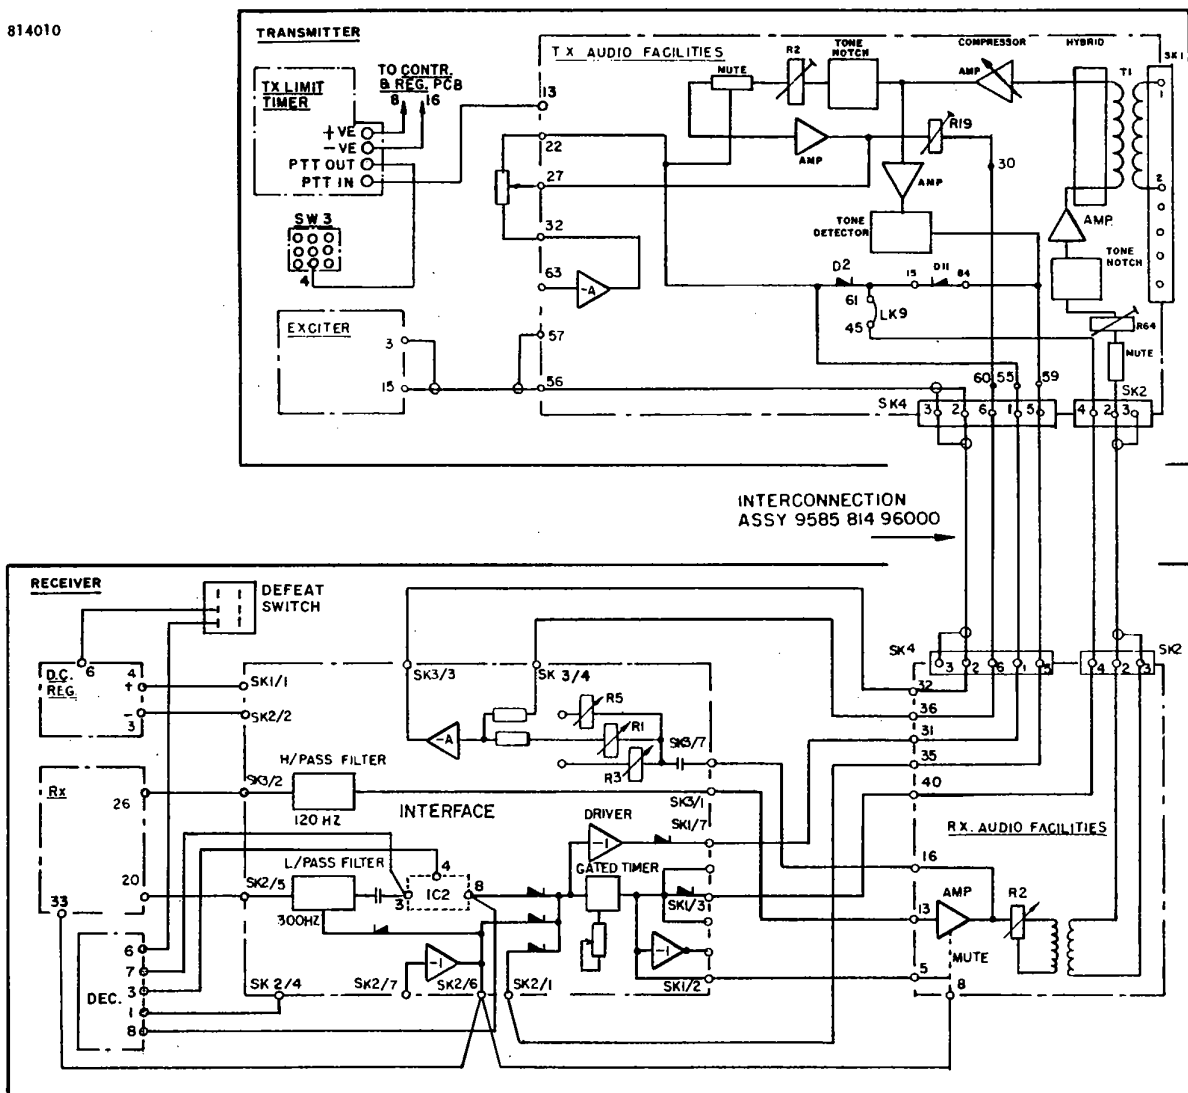
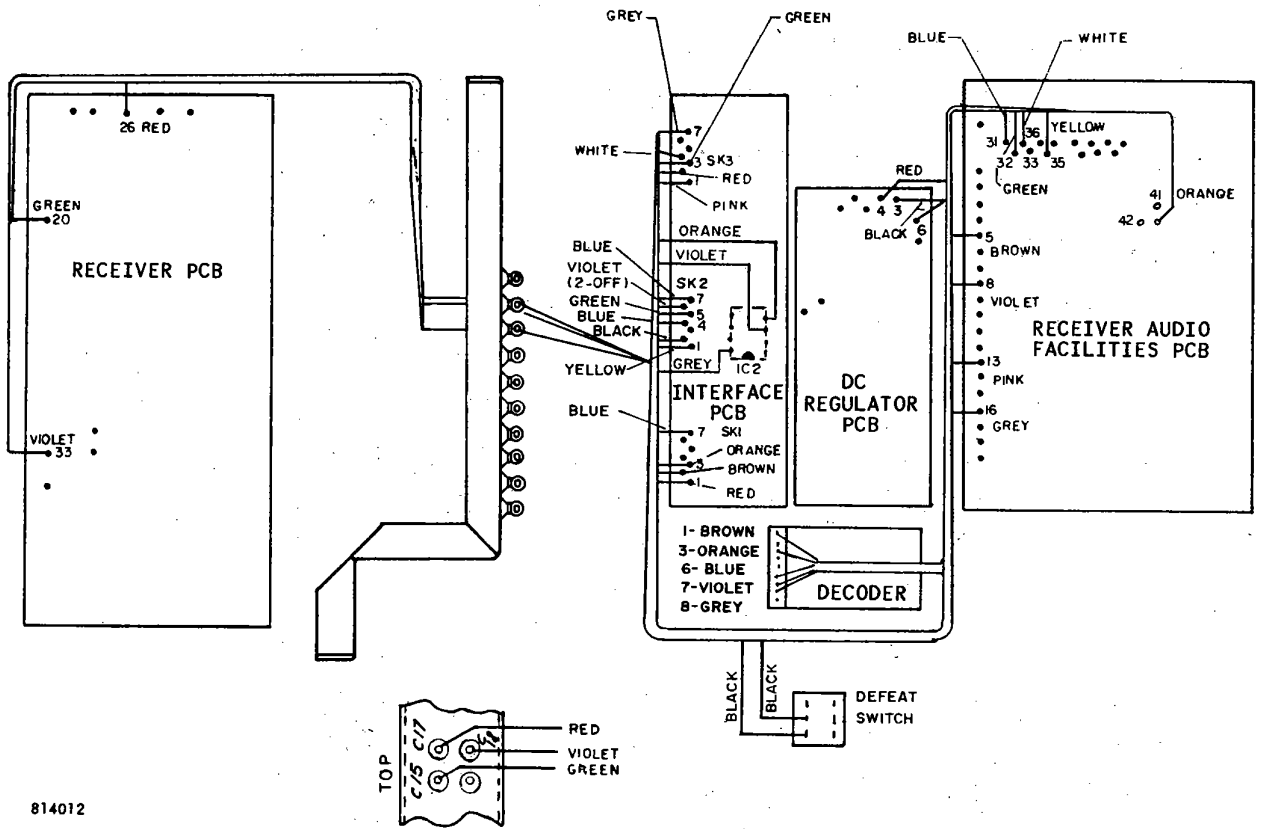
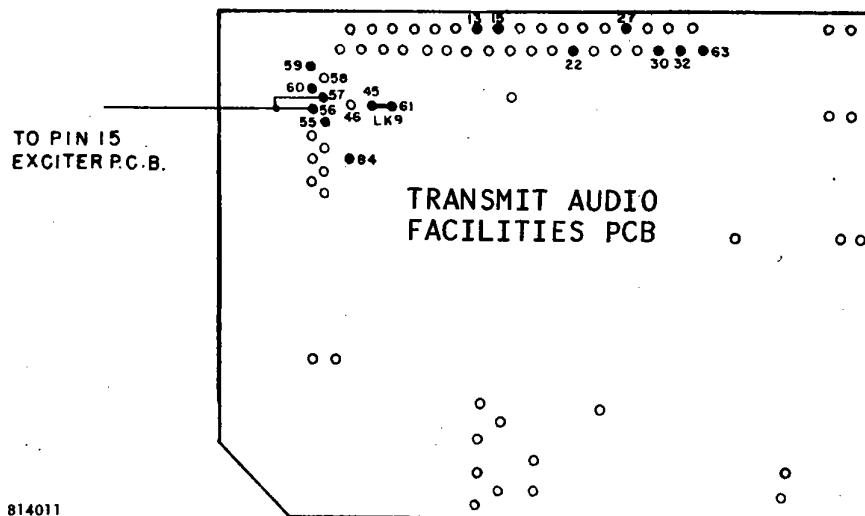

Figure 8.3. FM814 MK3 Interface Interconnection Diagram for Tone Squelch Talk-Through with Line Access (plus Tx 'On-time' Limit Timer)
Figure 8.1. FM814 Receiver Modification
Figure 8.2. FM814 MK3 Transmitter Modification
The Interface PC Board and loom are fitted into the Receiver and connected as detailed in (a) below and Figure 8.1. The Transmitter unit is modified as detailed in (b) with Figure 8.2 and the two units are then interconnected as shown in Figure 8.3 using Interconnecting Assembly 9585 814 96000.
- iv. Connect loom as shown in Figure 8.1.
(b) Transmitter Modification (Refer to Figure 8.2)
The Tx Limit Timer pc board and loom are fitted into the transmitter unit and connected as detailed below and in Figures 8.3 and 8.4.